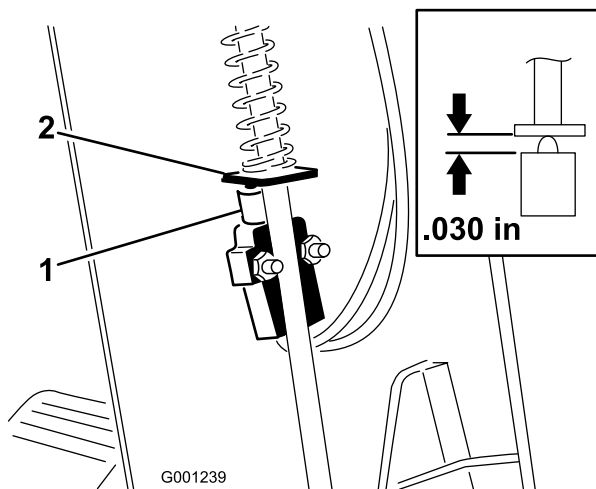

Figure 50
3. Slide cover up steering shaft to expose parking brake switch (Figure 50).
5. Align parking brake rod paddle with switch plunger (Figure 50).
6. Press down on parking brake rod and push up on switch until compressed length of switch plunger is .030 inches (Figure 50, inset). This the distance between the brake rod paddle and switch plunger housing.